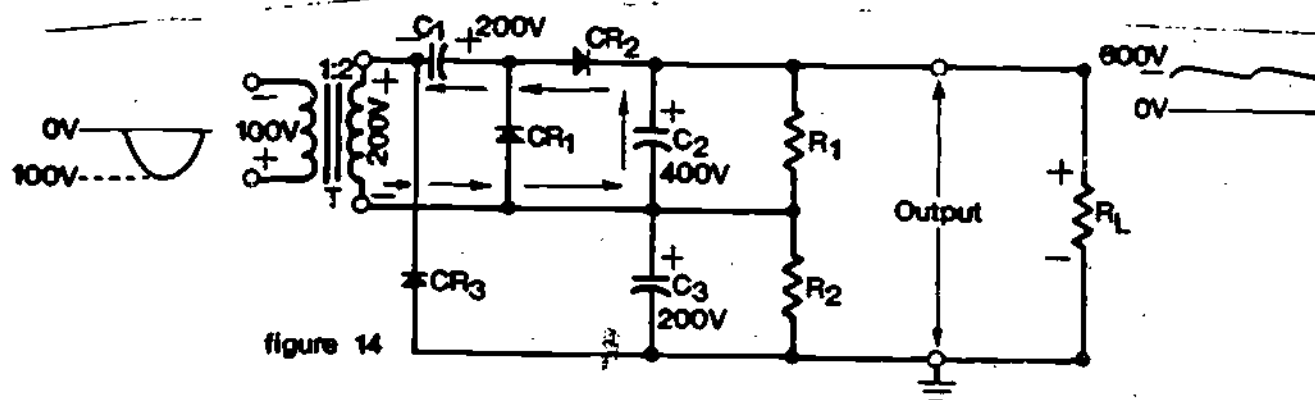

figure 14
16. Now let's see what happens when the top of the transformer secondary is positive. Study the schematic shown in Figure 14, paying particular attention to the current flow shown by arrows.